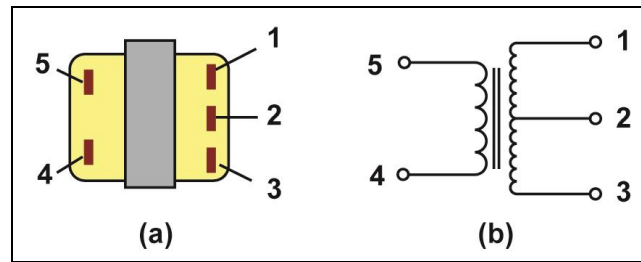

Fig. 1-1 Identification of Transformer leads
2. Fig. 1-1 shows a typical audio transformer. Identify the five leads on the transformer. Write the proper number of each pin on the protective tape immediately above the terminals.
3. Referring to Fig. 1-1(b), compare this schematic diagram of the transformer with the actual transformer.